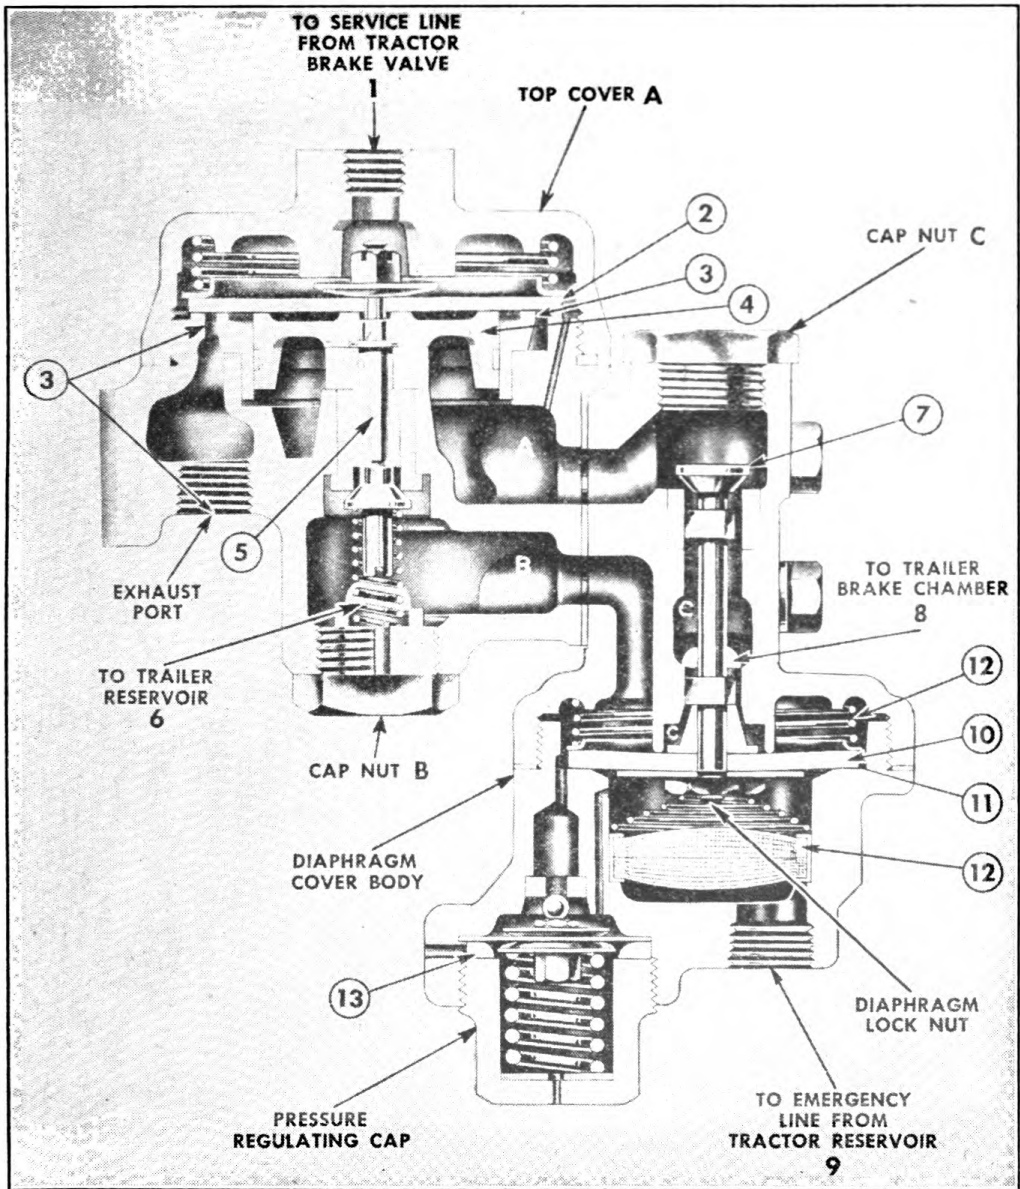

FIGURE 35. RELAY—EMERGENCY VALVE.
- (3) Bent or worn pressure plates should be replaced.
- (4) Slightly bent brake push rods may be straightened; if severely bent should be replaced.
- (5) Worn boots should be replaced.
14. RELAY-EMERGENCY VALVE (Fig. 35).—*a. Function.*—The relay-emergency valve serves as a relay station to speed up the application or release of the trailer brakes and also provides a means of automatically applying the trailer brakes in case the trailer breaks away from the tractor.
b. Operation (Fig. 35).—The operation of the relay-emergency valve is dependent upon the air pressure delivered to it by the brake valve on the tractor.
g. Disassembly.—Diaphragms (2) and (10) should be replaced once a year.
(1) *To clean or replace diaphragm (2).* (Fig. 35):
- (2) *Cleaning or replacing intake valve (5).* (Fig. 35.)
- (a) Remove the cap nut (B).
- (3) *Cleaning or replacing diaphragm (13).* (Fig. 35)
- (4) *Cleaning or replacing diaphragm (10) and washing strainer (12).* (Fig. 35.)
- (c) Remove cap nut (C). (Fig. 35.) Insert screw driver into slotted top of valve and remove diaphragm lock nut (Fig. 42). Pull out the valve stem and diaphragm (Fig. 43).
- h. Maintenance* (Fig. 35).—The complete valve should be removed from the trailer, dismantled, thoroughly cleaned, and diaphragms (2) and (10) should be replaced at least once a year.
- Strainer (12) should be removed and cleaned in cleaning fluid about every six months.
i. Leakage tests (Fig. 35).—(1) With brakes released, cover exhaust port with soap suds. Leakage is caused by supply valve (5) not seating properly.
(2) With brakes applied, cover exhaust port with soap suds. Leakage is caused by diaphragm (2) not seating properly.
j. Emergency feature tests (Fig. 35).—(1) With full pressure in the trailer reservoir, disconnect emergency line between tractor and trailer. Trailer brakes should apply automatically. This feature should be checked daily.
(2) Cover emergency line hose coupling at front of trailer with soap suds to check for leakage. Leakage is caused by diaphragm (10) not seating properly at (11).
(3) With valve still in emergency position, cover exhaust port with soap suds. Leakage in excess of that evident in test one is caused by valve (7) not seating properly.